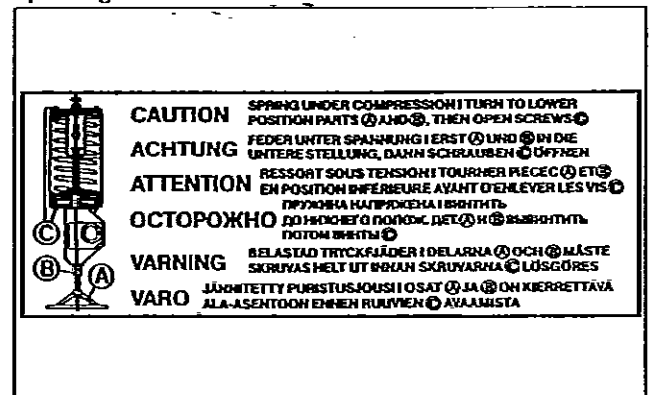

Fig. 23. BJAR actuator warning plate
The cylinder has a warning plate (43). When servicing the unit, check that the plate is in place and legible, see Fig. 23. Also check that the cylinder has the arrow sticker indicating the spring operating direction.